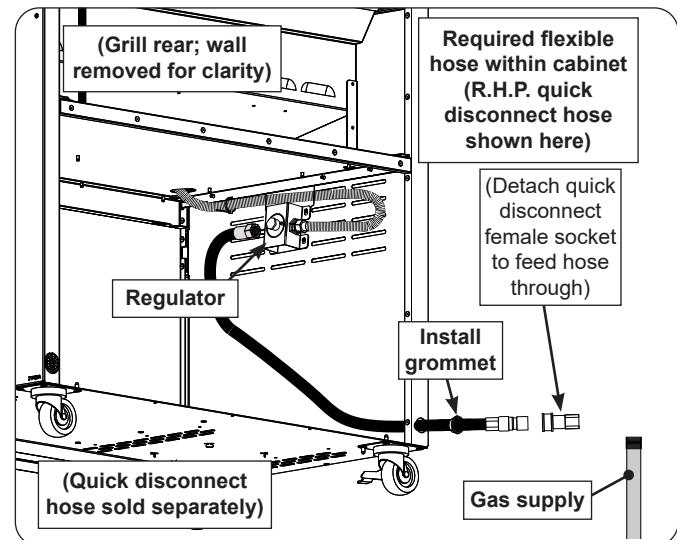
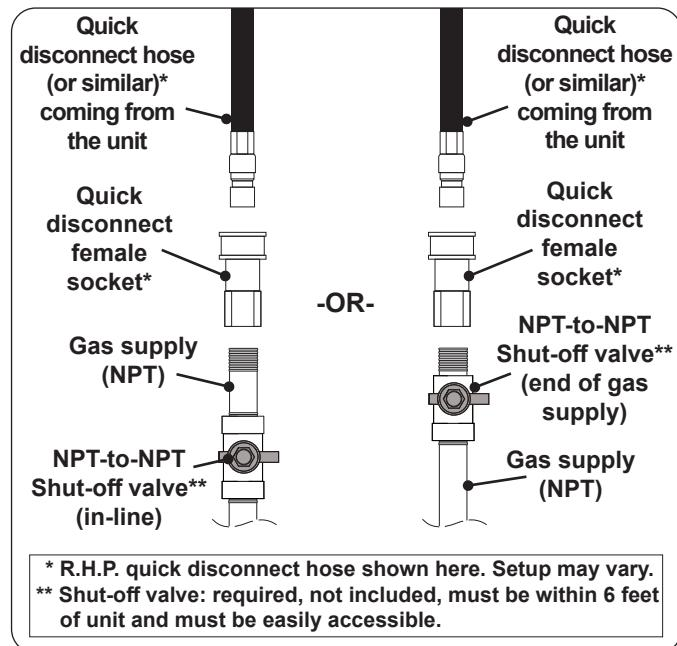

Fig. 12-1 Flexible hose assembly detail
Fig. 12-2 Connecting to a gas line
- For natural gas models, a quick disconnect hose is available for purchase and must connect to the regulator inside the cabinet (see Fig. 12-1 and Fig. 12-2). For household propane, an appropriate, C.S.A. approved, flexible hose or similar MUST be purchased to route from the gas line to the regulator inside the cabinet (see Fig. 12-1 and Fig. 12-2). The R.H.P. quick disconnect hose is recommended, and is discussed and illustrated here. See PARTS LIST and contact your dealer for ordering information. (If your setup varies from what is shown here, observe the National Fuel Gas Code and all local codes.)
- Install a quick disconnect hose or similar (purchased separately) to the regulator inside the cabinet. (An R.H.P. quick disconnect hose is recommended - see third bullet above.) Use a pipe joint compound resistant to all gasses on all NPT pipe fittings except flare fittings. Reference Fig. 12-1 and Fig. 12-2. Then proceed to step 3.
- Install the included open-hole grommet to the hole in the rear bottom left of the cabinet, then route the quick disconnect hose (or similar) out of the hole, and to the gas supply (see Fig. 12-2).
Connect the quick disconnect female socket to the shut-off valve OR gas supply (NPT) using a pipe joint compound resistant to all gasses (see Fig. 12-1). Tighten securely. Re-attach the hose to the disconnect female socket.